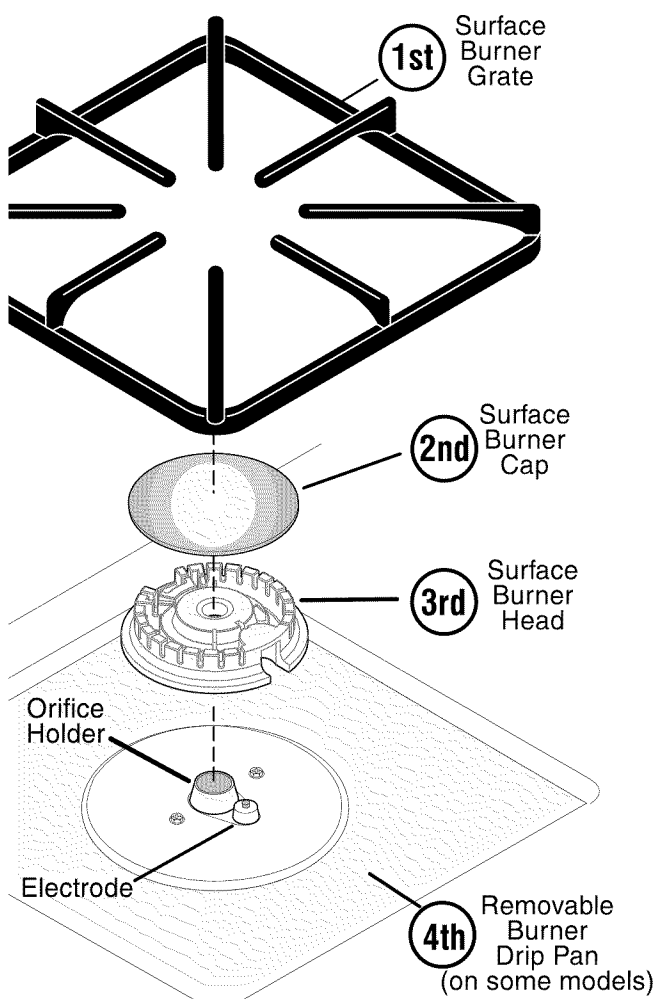

FIGURE 6
- Remove the top grate and burner cap (See Figure 6).